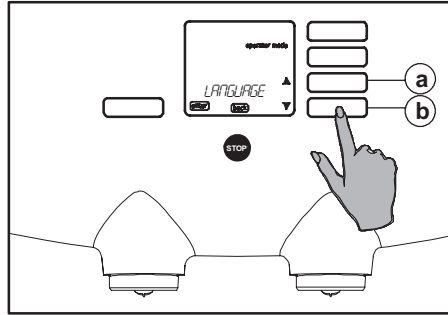

Fig. 60 "LANGUAGE" selection menu
In the operator menu, from the "LANGUAGE" selection menu (fig. 60), you can choose which languages is to show in the display:
3. Use the scroll buttons \updownarrow until the option "LANGUAGE" appears in the display (fig. 60 a or b).